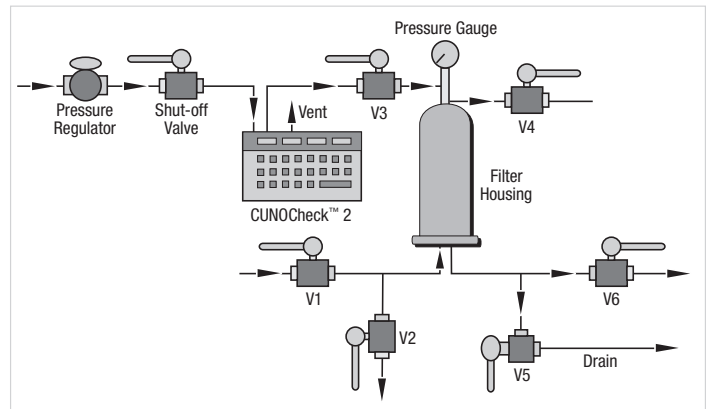

Figure 2. FFIT (automated method).
3. Procedure (Automated Testing — Figure 2)
A. Configure the system as shown in Figure 2.